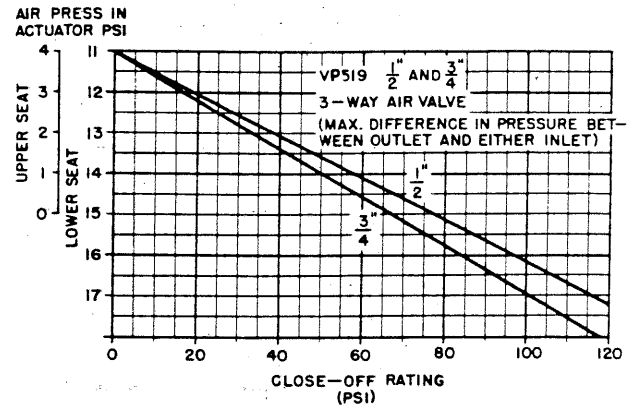
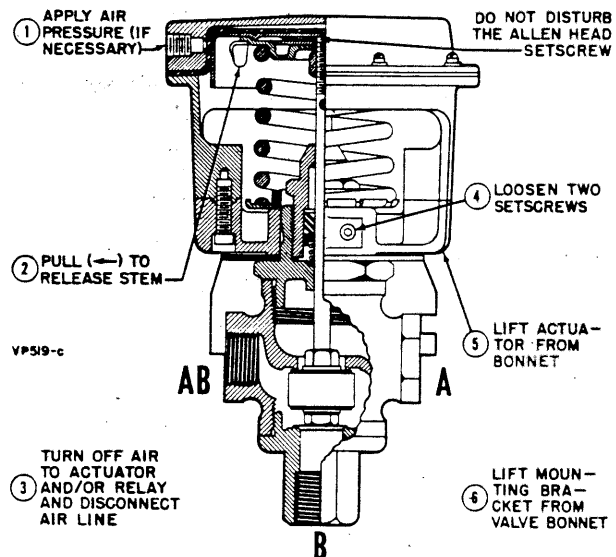

Fig. 2—Close-Off Ratings of VP519C.
Fig. 3—Removing the actuator from the valve.
CLOSE-OFF RATING: See Fig. 2.
VALVE CONSTRUCTION: 3-way, two-position, normally open "B" to "AB" (note Fig. 2).
MAXIMUM PRESSURE DROP: 75 psi Max. (See Fig. 2 for CLOSE-OFF RATING.)
5. Consider the installation of the valve with reference to port markings on the valve body. See Figures 4 and 6 which show typical piping diagrams. **NOTE: "AB" is the common outlet port while "A" and "B" are the inlet ports, as shown in Figure 3.**
Refer to Fig. 3.
If, at any time, it is necessary to remove the actuator from the valve, proceed as outlined in Fig. 3.
1. Be sure that the controlled air pressures are within the close-off ratings of the valve (see Fig. 2). One, or both, setscrews (4, Fig. 3) must be tightened for testing.